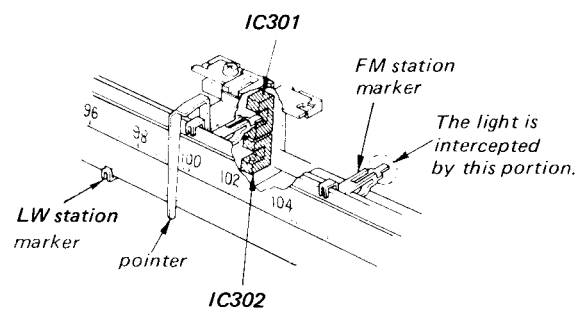

Fig. 2
- 3 Match the dial pointer to the desired station marker. (See Fig. 2)
- d) D201 is opened, B+ voltage is not supplied to the terminal ②③ of IC201.
- e) FM circuit operates (The terminal ②③ of IC201 serves as a switch).